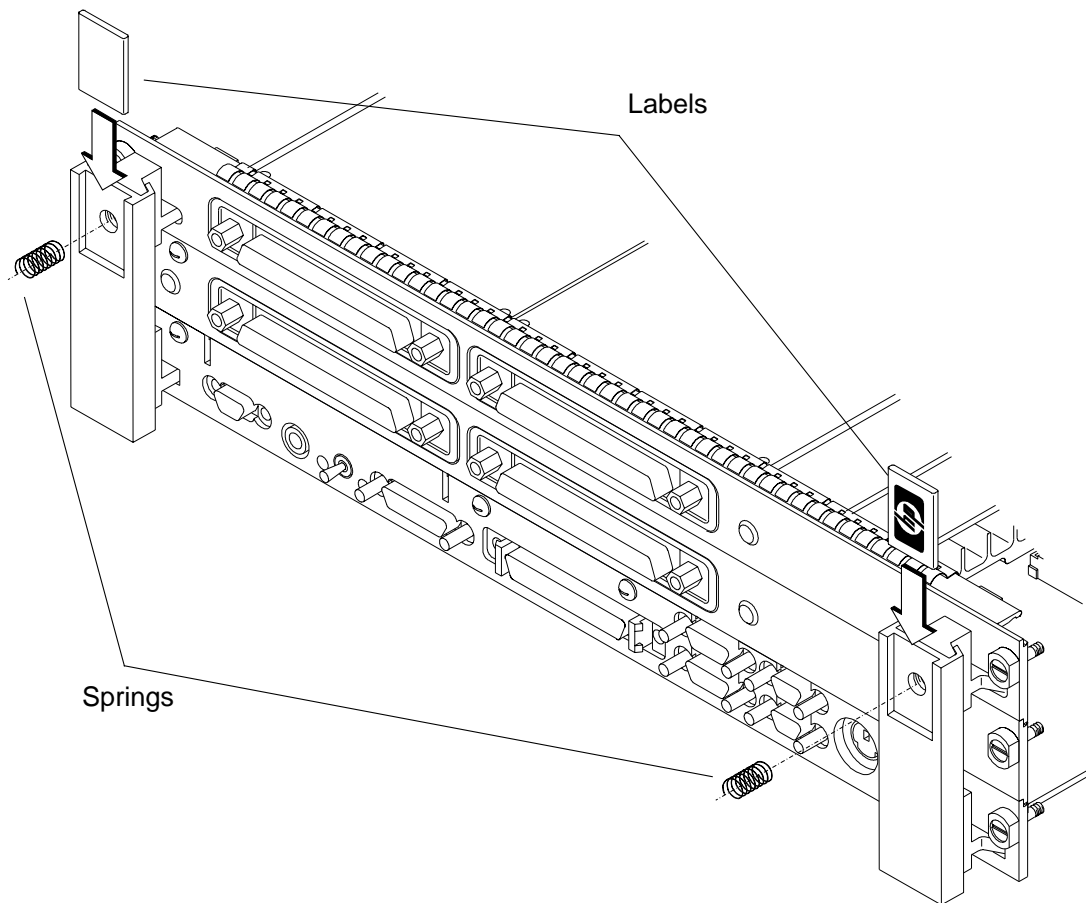

Figure 2-14 **Installing the Springs and Labels**
- c Thread the springs included in the kit into the ejector handles on the PMC expansion board, and with the springs compressed, slide the labels from the board computer into the sleeves, as shown in Figure 2-14.